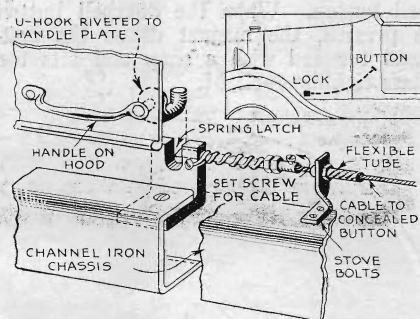

Fig. 5. By this method hood latches can be put on your car with operating buttons concealed under cowl but within reach.
**I**T IS often desirable, when the car is put in a public garage, to fix things so that no one can lift the hood and monkey with the engine. Figure 5, above, shows a simple way to add hood latches which can be operated by concealed buttons located under the cowl, one for each side of the hood.